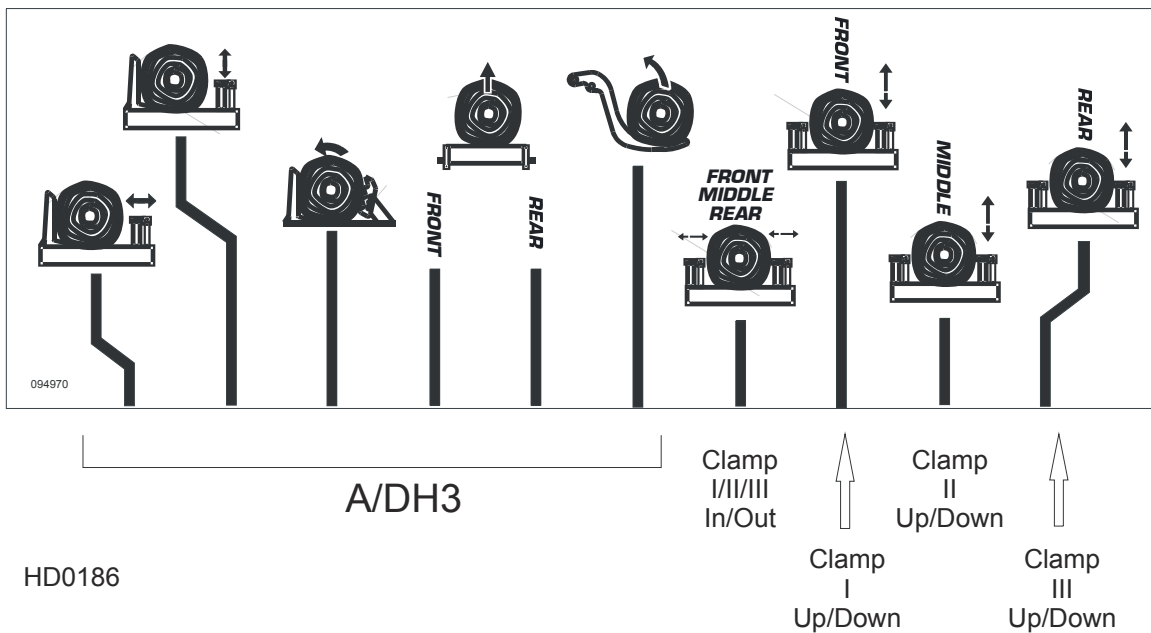

**FIG. 2-8**
**See Figure 2-8.** A/DH3 hydraulic units have six control levers to load, clamp, turn and level logs. A/DH5 and A/DH7 hydraulic units have four additional levers for controlling the Pull-Down clamps. In sawmills equipped with A/DH5 hydraulic system, individual Pull-Down clamps are controlled with separate levers. In sawmills with A/DH7 hydraulic system, in/out movement of individual clamps is controlled with the same lever and up/down movement of individual clamps is controlled with separate levers. A/DH5 and A/DH7 hydraulic control boxes are equipped with an oil flow control valve.